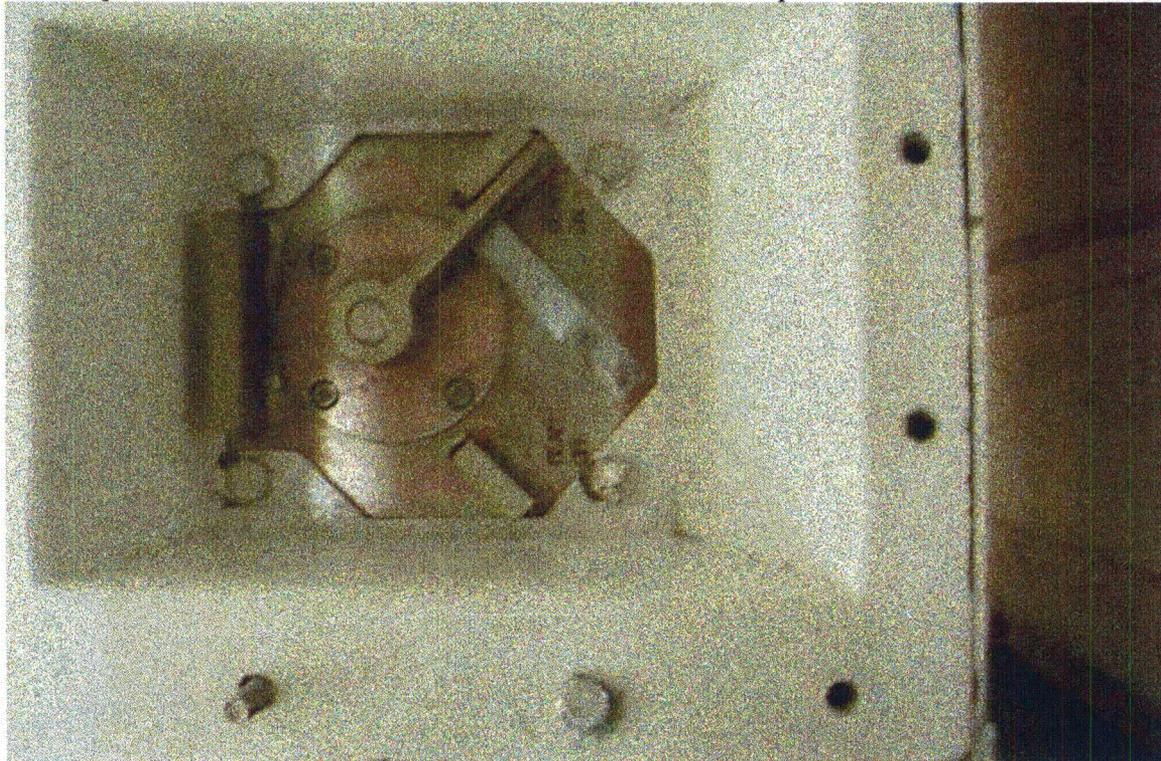

Figure 1. Close-up of shutter lever and indicator
4. The shutter mechanism is entirely manual, with no electrical or mechanical connections or indications located remotely, including the remote operators console. The shutter status will be known at the remote operator station due to failure of the measurement when the shutter is closed. However, this should be considered "useful information" and should not constitute an official indication of shutter position. The only accurate determination is by the mechanical handle/indicator on the device itself. A close-up photo of this handle/indicator is shown in Figure 1 below. This photo shows the handle that opens and closes the shutter and also serves as the shutter status indicator. When in the off position, a padlock can be inserted to lock the shutter in the off position.